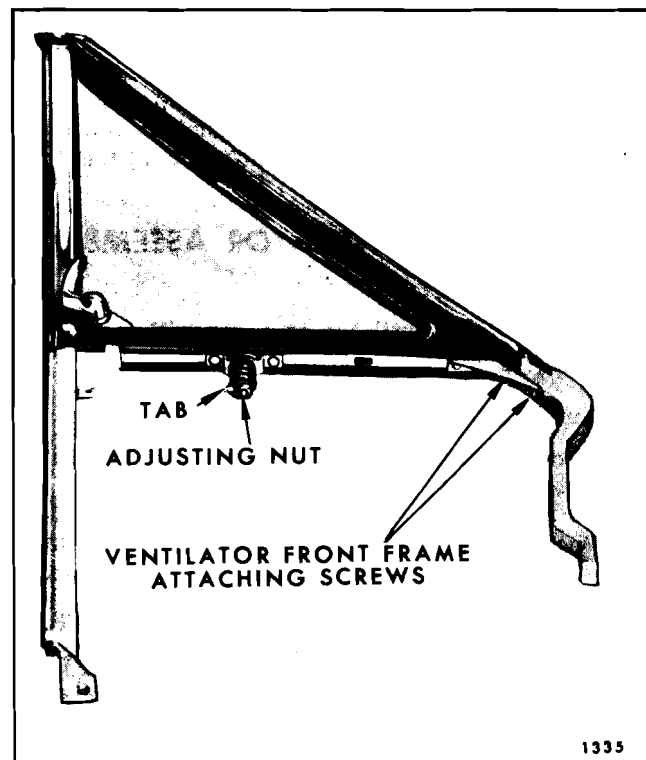

Fig. 6-77—Front Door Ventilator Assembly
loosening decreases effort. When desired adjustment has been obtained, bend down washer tab to lock nut in position (See Figure 6-77).
3. Remove two attaching screws securing ventilator casting to frame and separate ventilator casting from frame so that the ventilator weatherstrips can be removed (Fig. 6-77).